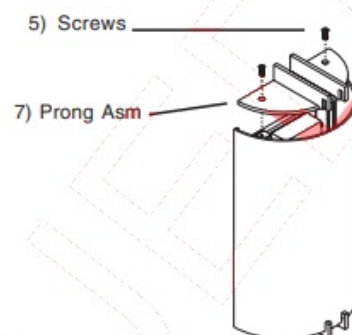

Fig 8
4. Position and hold Diffuser (2) in grooves on installed prong assembly while aligning holes in second prong assembly with holes in top of mounting bracket and secure with Screws (5) See Fig 8..
5. DLSD1, DLSD2, DLSD5, DLSD10, DLSD11, DLSD12, & DLSD16 – Position Diffuser (2) over Mounting Brackets (3) while aligning holes in diffuser with holes in brackets, secure with Screws (5) See Fig 8.